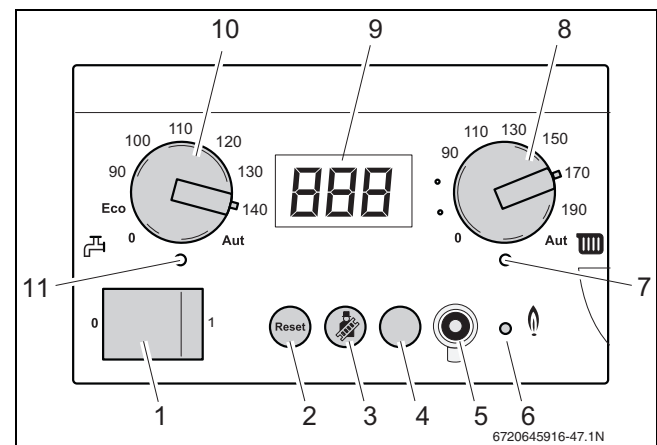

Fig. 73 BC10 basic controller
- Set the upper space heating water temperature limit for heating mode with the “space heating water temperature” knob (→ fig. 73, [8]) (→ table 19). This limitation does not apply to DHW preparation.
- Set the DHW temperature knob (→ fig. 73, [10]) to the required temperature of the hot water in the hot water cylinder (→ table 20).
- Switch OFF the appliance by pressing the main switch of the BC10 (→ fig. 73, [1]).
- Switch off OFF appliance by pressing the main switch of the BC10 (→ fig. 73, [1]).